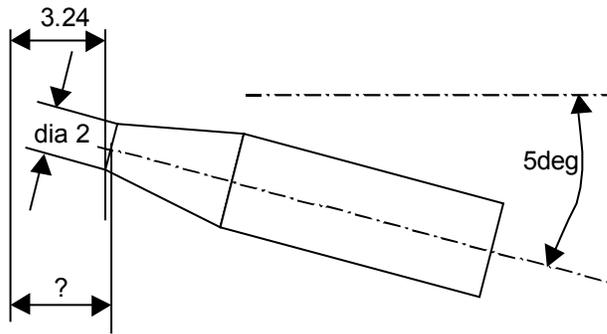

Figure 1
18. A dial gauge has its point worn out to a flat of 2mm dia as shown in Figure 1 below left not to scale. During measurement, its spindle is misaligned to the surface being measured by an angle of 5° . If the observed reading of the dial is 3.24mm, estimate the correct reading. Make suitable assumptions.